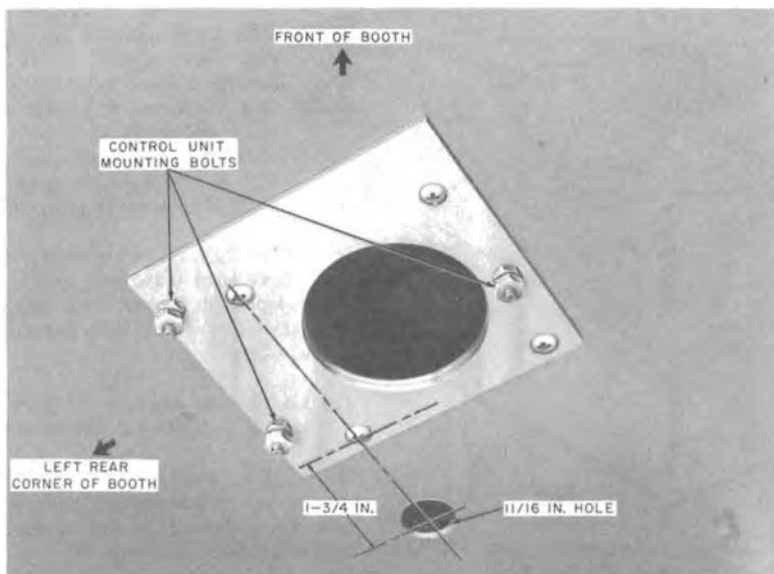

Fig. 10—Installation of Adapter Plate to Ceiling of KS-16797 Booth
- (f) Secure light control adapter plate on ceiling where cord plate was removed (Fig. 10). This adapter plate must be placed with the two control unit mounting bolts toward the left rear corner of booth.
- (g) Locate and drill one 11/16-inch diameter hole in the ceiling as shown in Fig. 10.